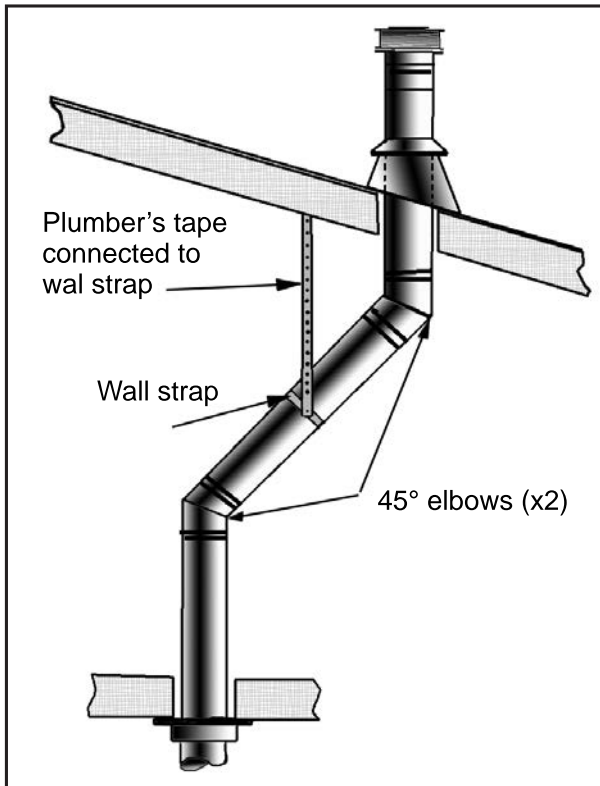
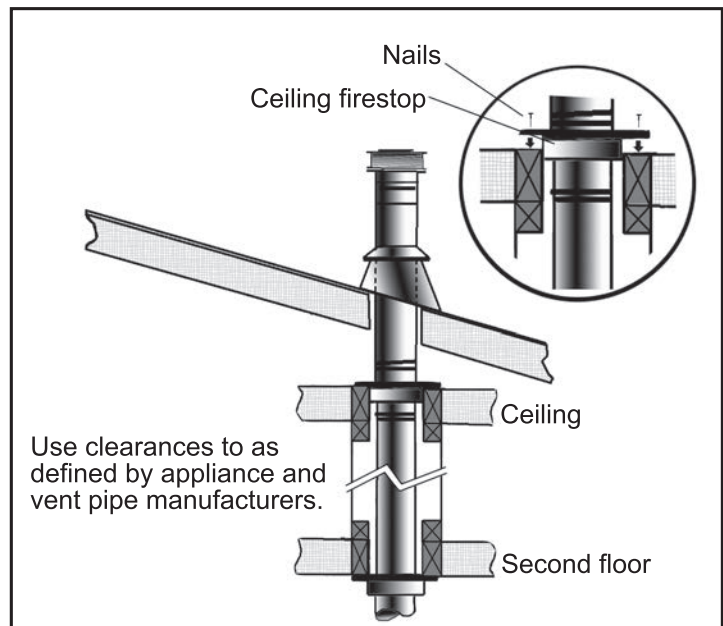

Figure 55: Use of Wall Straps.
Figure 56: Multi-Story Vent Pipe Installation
- (1) If an offset is necessary in the attic to avoid obstructions, it is important to support the vent pipe every **3' (914 mm)**, to avoid excessive stress on the elbows, and possible separation. Wall straps are available for this purpose (see Figure 55).
- (2) When ever possible, use 45° degree elbows instead of 90° degree elbows. The 45° degree elbow offers less restriction to the flow of flue gases and intake air.
- (3) For multi story installations; a ceiling firestop is required at the second floor, and any subsequent floors (see Figure 56). The opening should be framed to **10" (254 mm) x 10" (254 mm)** inside dimensions, in the same manner as shown in Figure 56.
- (4) Any occupied areas above the first floor, including closets and storage spaces, which the vertical vent passes through, must be enclosed. The enclosure may be framed and sheet-rocked with standard building materials. However consult the appliance manufactures installation instructions for the minimum allowable clearance between the outside of the vent pipe, and the combustible surfaces of the enclosure. Do not fill any required air spaces with insulation.